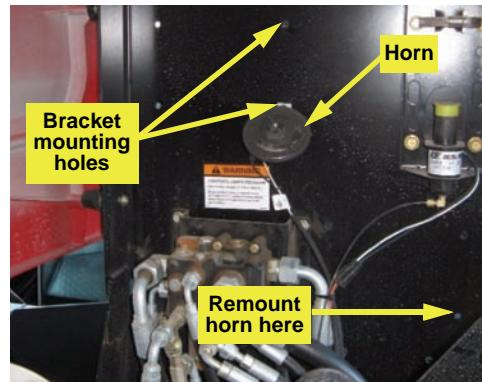

Figure 2a: Steering block and new horn mounting locations
- Locate the two bracket mounting holes on the front side of the firewall. Relocate the horn to the mounting hole as shown (Figure 2a).